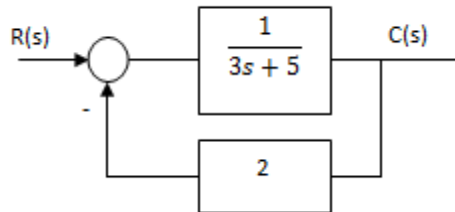

Figure 3
6) **Find the error** for the system shown in Figure 3 when the input is: